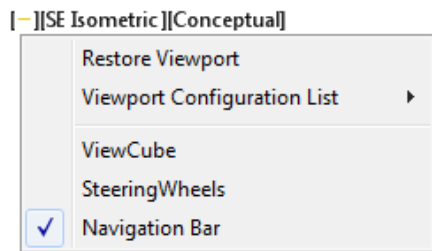

Figure Step 10A
Step 10 Click the small dash on the left side of the menu to pull down the menu. Enable Navigation Bar. The Navigation Bar will display on the right side of the Graphic window as shown in the figure. (Figure Step 10A and 10B)